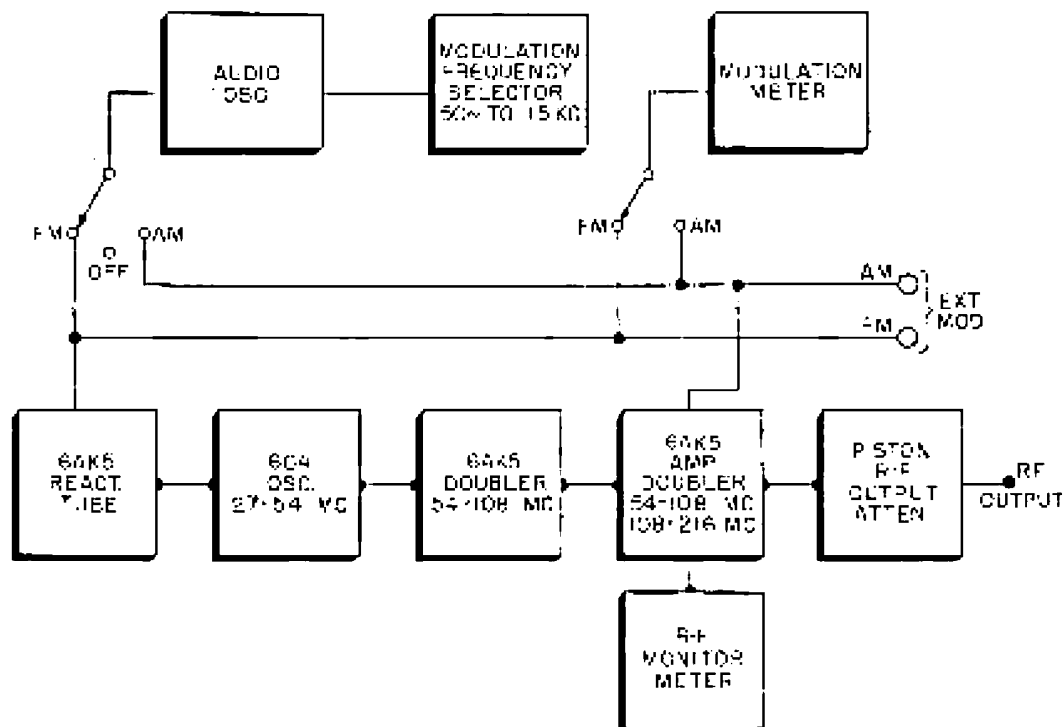

Fig. 1. Basic Elements of 202-B AM-FM Signal Generator
b. BASIC OPERATING PRINCIPLES (Fig. 1).
Figure 1 shows in block form the basic elements employed in the 202-B Signal Generator. A type 6C4 triode is used as an RF oscillator and is tuned over the frequency range of 27-54 megacycles.